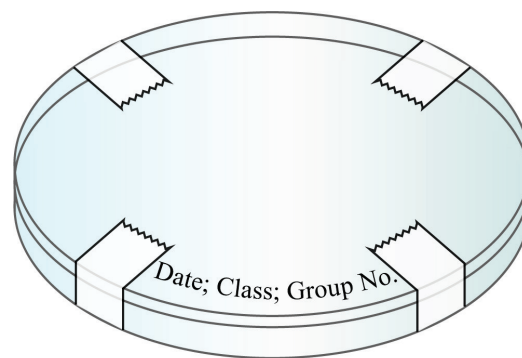

Fig. 17
21. Stick short strips of adhesive tape at opposite edges of the agar plates to hold the lid and base together as shown in Fig 17. Invert all the plates and incubate them at room temperature* or in an incubator set at 25–30°C for 2 days.